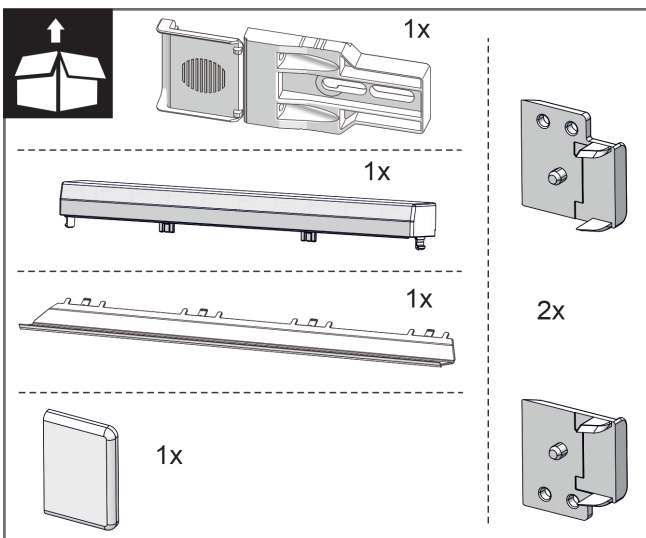
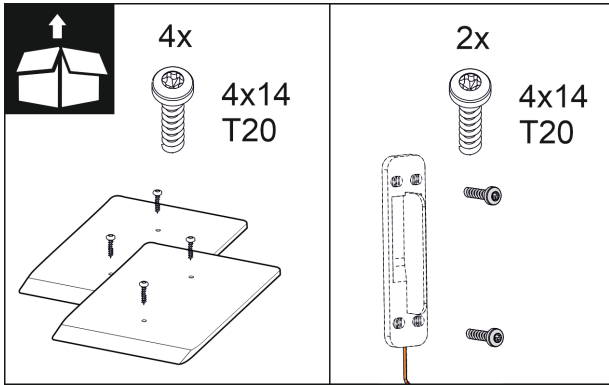

Fig. 10
Fig. 16
2. Check the assembly parts in the accessory kit. *Fig. 10 ()* to *Fig. 16 ()*
Assembly parts in the accessory kit *Fig. 10 ()* to *Fig. 16 ()*